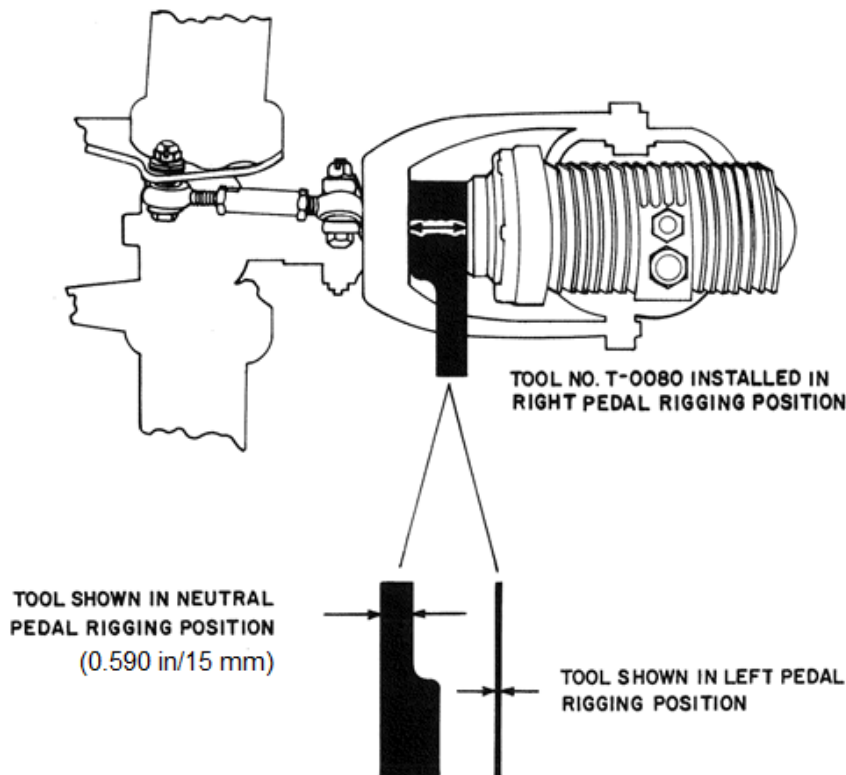

Figure 10-26. Rigging Tool T-0080 Installation
(1) Install the tail rotor rigging tool T-0080 (0.590 in/15 mm side) between the bearing retainer and the output shaft seal retainer to hold the tail rotor pitch controls in the neutral position (Fig. 10-26). Secure the pitch control assembly in this position by installing wooden wedges between the pitch control assembly and the transmission on the right side of the transmission (Fig. 10-27).
(2) Verify that the pilot and co-pilot pedals are in alignment to each other.
(3) If the pedals are not even, adjust the tension as follows:
(1) Verify the cable tension is set (Para. 10-7.A).
(2) If required, remove the wraparound cowl and baggage box, if necessary.
(3) Remove the seat cushions, seat deck (Para. 8-8.A), and the left floor panel.
(4) Install the tail rotor rigging tool T-0080 (0.590 in/15 mm side) between the bearing retainer and the output shaft seal retainer to hold the tail rotor pitch controls in the neutral position (Fig. 10-26). Secure the pitch control assembly in this position by installing wooden wedges between the pitch control assembly and the transmission on the right side of the transmission (Fig. 10-27).
- (5) Verify that the pedals are in alignment. If not aligned, adjust the cable tension in accordance with Para. 10-7.A.
- (6) Remove the rigging tool T-0080 and wedges from the tail rotor transmission, then cycle the pedals and look for interference between the pitch control assembly pivot brackets and the tail rotor transmission.
- (7) Move the pedals to the full left position. Insert the tail rotor rigging tool T-0080 (narrow profile) between the output shaft seal housing and the face of the brass bushing in the pitch control assembly (Fig. 10-26). The rigging tool should just fit in when the pedals contact the left stop. Adjust the "left pedal adjustment stop" until the pedal and the control assembly make contact at the same time (Fig. 10-28).
- (8) Move the control pedals to the full right position. Insert the tail rotor rigging tool T-0080 (widest profile) between the output shaft seal housing and the face of the brass bushing in the pitch control assembly (Fig. 10-26). The rigging tool should just fit in when the pedals contact the right stop. Adjust the "right pedal adjustment stop" until the pedal and the control assembly make contact at the same time (Fig. 10-28).
- (9) Install the wraparound cowl and the baggage box, if removed.
- (10) Install the left floor panel, seat deck (Para. 8-8.D), and seat cushions.
(i) Install the tail rotor rigging tool T-0080 (0.590 in/15 mm) between the bearing retainer and the output shaft seal retainer to hold the tail rotor pitch controls in the neutral position (Fig. 10-26). Secure the pitch control assembly in this position by installing wooden wedges between the pitch control assembly and the transmission on the right side of the transmission (Fig. 10-27).
- (i) Install the tail rotor rigging tool T-0080 (0.590 in/15 mm) between the bearing retainer and the output shaft seal retainer to hold the tail rotor pitch controls in the neutral position (Fig. 10-26). Secure the pitch control assembly in this position by installing wooden wedges between the pitch control assembly and the transmission on the right side of the transmission (Fig. 10-27).